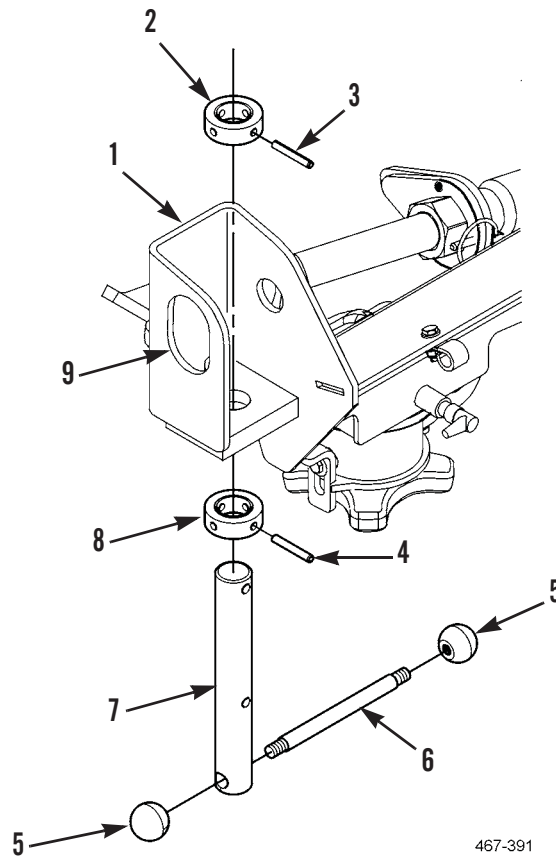

Figure 1. Air Transport Lifting Pin.
1. Raise air transport lifting pin (Figure 1, Item 7) until collar (Figure 1, Item 2) and spring pin (Figure 1, Item 3) are accessible through cutout (Figure 1, Item 9).
2. Remove spring pin (Figure 1, Item 3) and collar (Figure 1, Item 2) from air transport lifting pin (Figure 1, Item 7).
3. Remove air transport lifting pin (Figure 1, Item 7) from stowage assembly (Figure 1, Item 1).
4. Remove spring pin (Figure 1, Item 4) and collar (Figure 1, Item 8) from air transport lifting pin (Figure 1, Item 7).
5. Remove two knobs (Figure 1, Item 5) from handle (Figure 1, Item 6).
6. Remove handle (Figure 1, Item 6) from air transport lifting pin (Figure 1, Item 7).